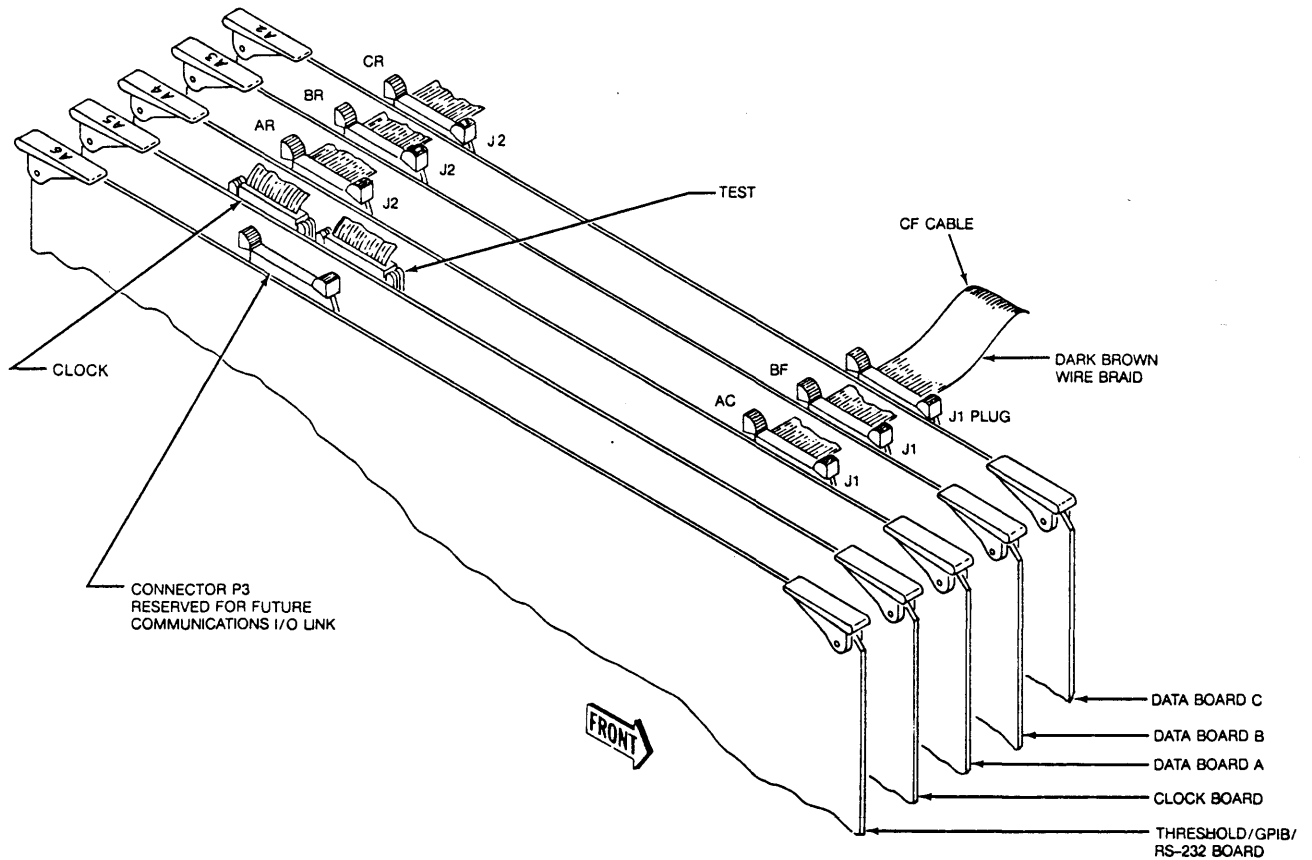

Figure 6-2. K450 Ribbon Cable Connections at Card Cage
7. Locate the unattached ribbon cables BF and BR (for Section B Data Board) or CF and CR (for Section C Data Board). See Figure 6-2. Install the ribbon cable connector on J1 near the front of the machine. The dark-brown wire braid on the connector should be located to the front of the machine.
Install the ribbon cable connector on J2 near the rear end of the machine. See Figure 6-2.
8. Replace the harness connectors removed in Step 3. Ensure each harness is connected to its socket. See Figure 6-2.